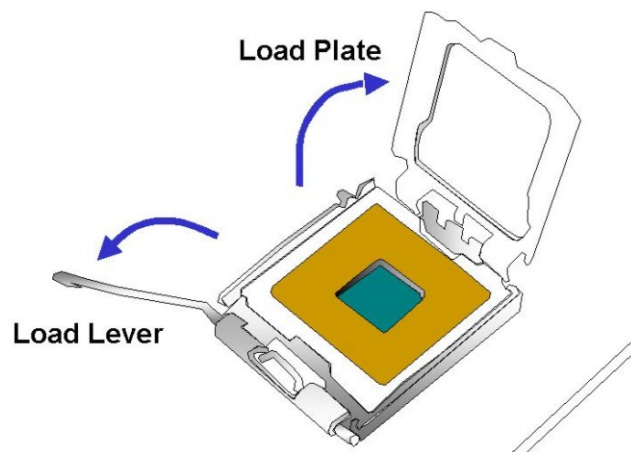

Figure 4-3: CPU Socket Load Plate
Step 2: Open the socket. Disengage the load lever by pressing the lever down and slightly outward to clear the retention tab. Fully open the lever, then open the load plate. See **Figure 4-3**.